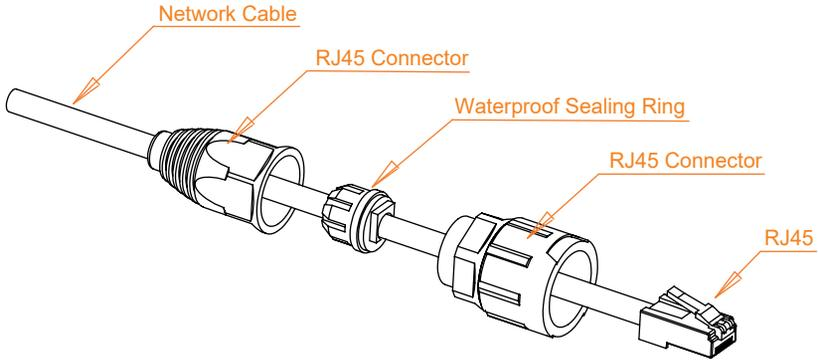

Figure 5-14 - DRM cable assembly
2. Make the RJ45 terminal with tools according to the identification in figure 5-14;
3. Tighten the aviation plug as shown in figure 5-14.